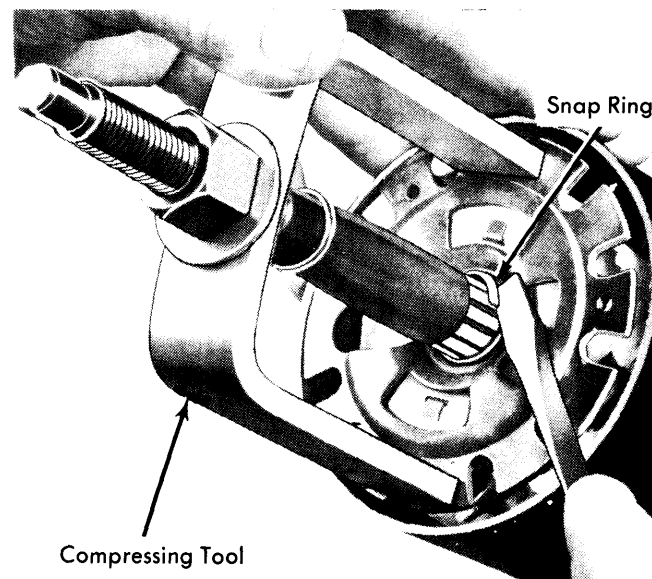

Fig. 1 Removing Lock Plate Snap Ring
2) Remove steering wheel. Using two screwdrivers, pry anti-theft cover off lock plate. Compress lock plate using a suitable compressor tool (J-23653) (see Fig. 1). Remove snap ring from steering shaft.
2) Remove steering wheel. Using two screwdrivers, pry anti-theft cover off lock plate. Compress lock plate using a suitable compressor tool (J-23653) (see Fig. 1). Remove snap ring from groove in steering shaft.